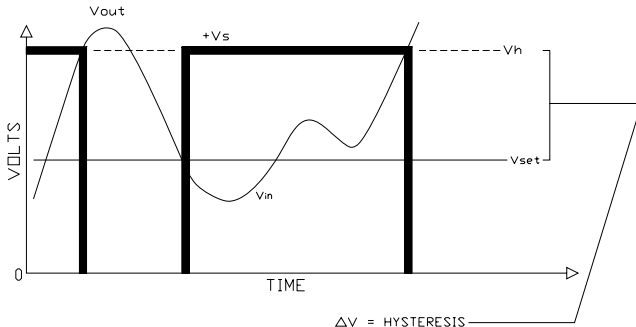

FIGURE 15.
(1) Impedance into non-inverting input drops to 120k ohm for negative input signals if the hysteresis pot is connected externally as shown in Figure 15.
Hysteresis can be varied externally by two means: (1) Putting a resistor between pins 2 and 14, or (2) Connecting a potentiometer divider between pins 2 and 14 as shown in Figure 15. Using either method, the response of a Model 540 with  $V_{in}$  connected to +IN,  $V_{set}$  to -IN, and the output connected for current sinking, is shown in Figure 15. The voltage  $V_T$  at which the unit trips will be within  $\pm 10$  mV of the set voltage  $V_{set}$ . The hysteresis voltage will be approximately
With a potentiometer divider as shown in Figure 15, the hysteresis is approximately